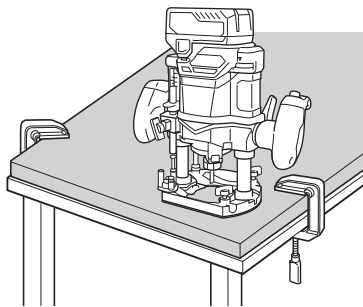

Fig. 10
2. Secure the material with a vice to ensure that both hands are free to hold and operate the power tool. (Fig. 10)